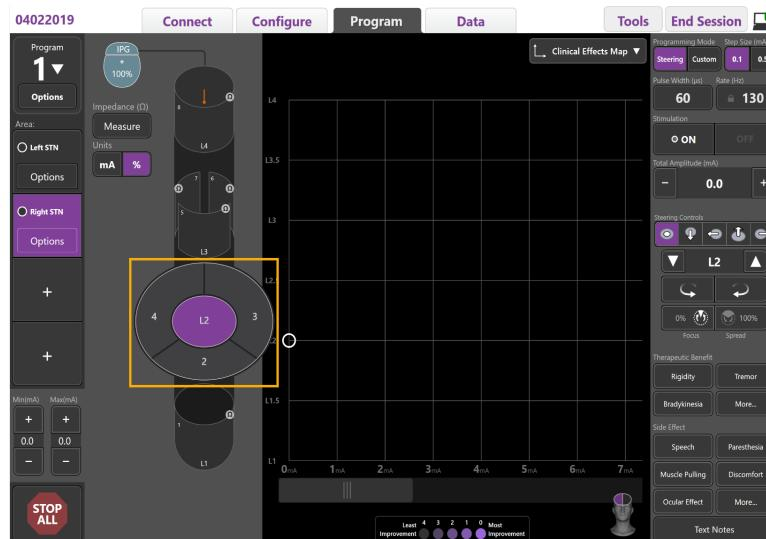

Figure 8. Directional Contact Selector
2. Select a Contact to assign it as a cathode. You may create an equal spread of current across a Level of Contacts ("ring mode") by selecting anywhere within that Level, then selecting the center button. To assign a single directional segment as the cathode, select anywhere within that Level, then select the corresponding button (Figure 8).